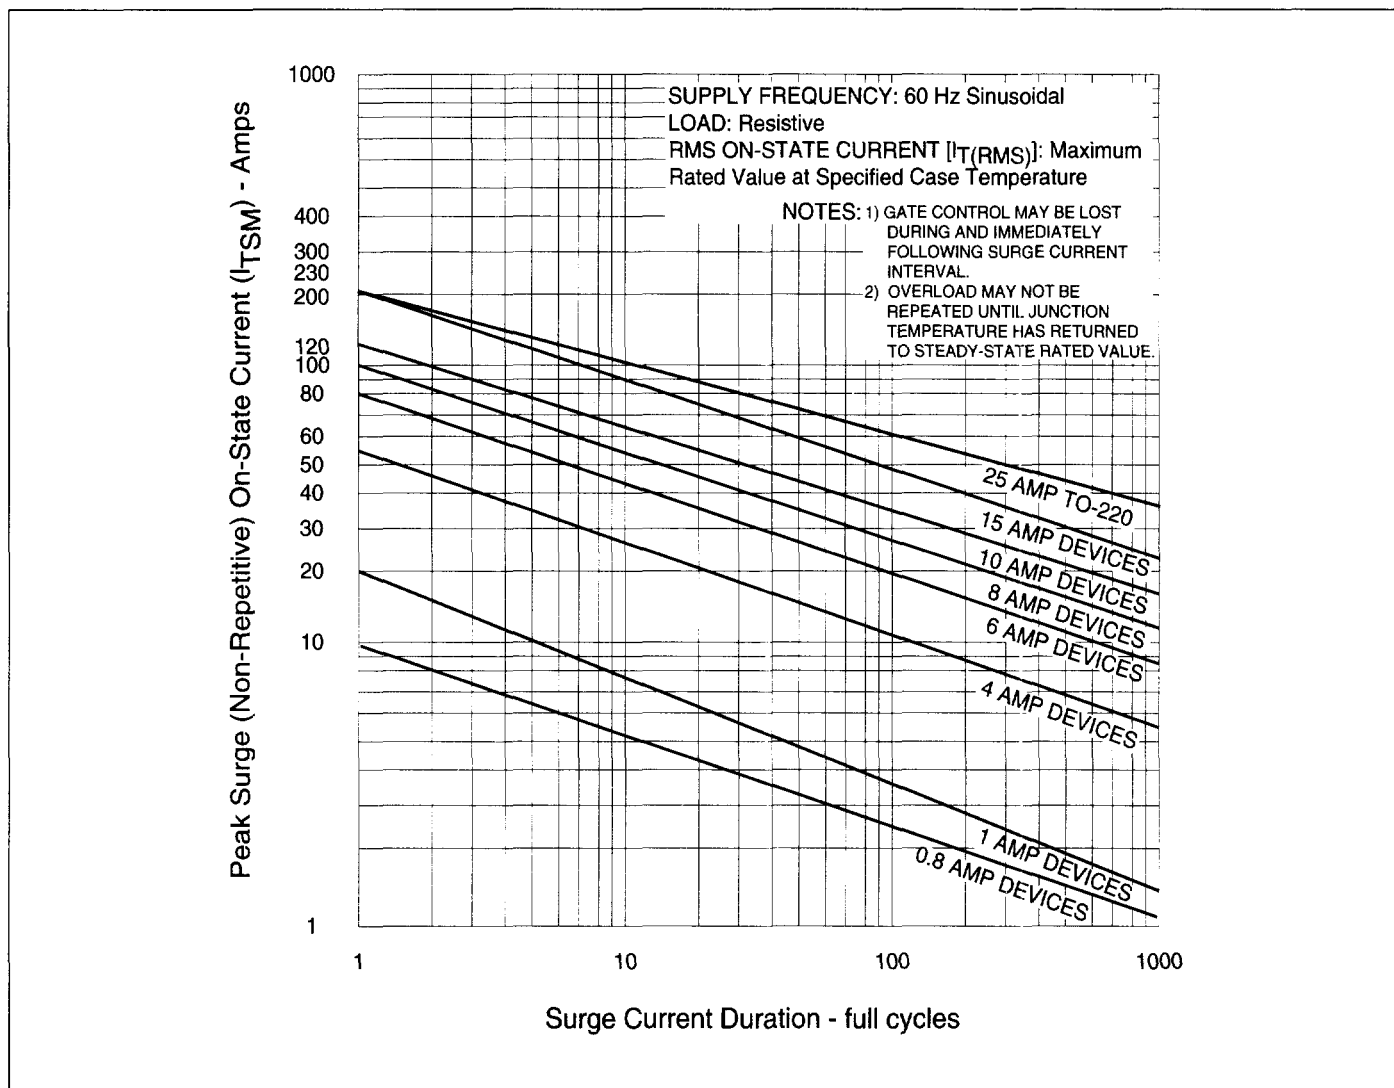

Figure 2.13 Peak Surge Current vs Surge Current Duration
- (9) See Figure 2.13 for surge rating with specific durations.